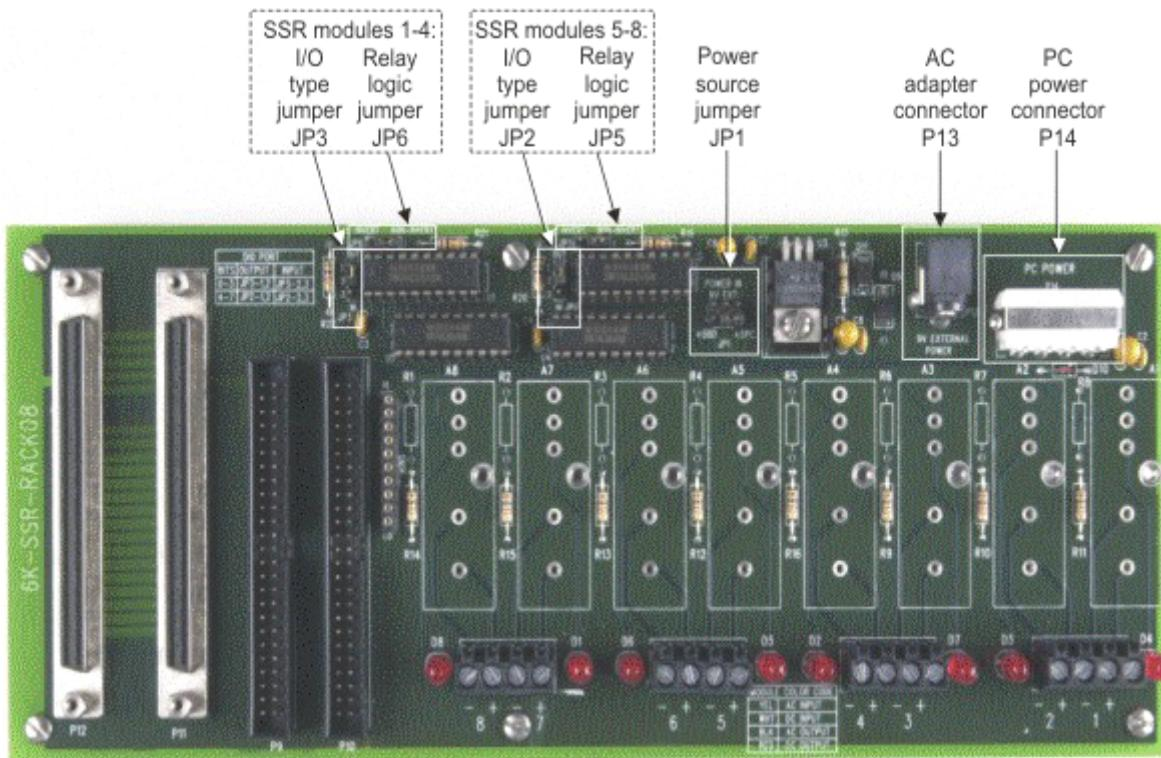
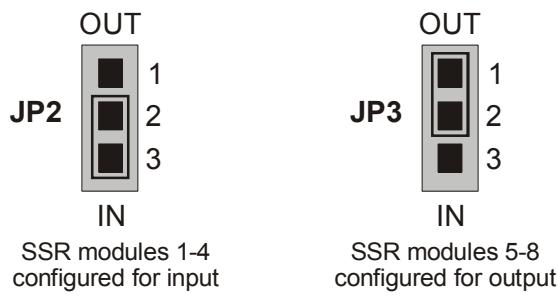

Figure 2-4. 6K-SSR-RACK08 board jumpers and external power connectors
Figure 2-6. I/O module type jumpers
Figure 2-4 shows the location of the jumpers and power connectors on the 6K-SSR-RACK08.
4. Connect the other end of the power cord to the connector labeled **PC POWER** connector (**P14**) on the 6K-SSR-RACK08. Refer to Figure 2-4 for the location of this connector.
2. Connect the CB-PWR-9 cable to the **9V EXTERNAL POWER** connector (**P13**) on the 6K-SSR-RACK08. Refer to Figure 2-4 for the location of this connector.
Refer to Figure 2-4 for the location of these jumpers. Figure 2-6 shows the SSR modules 1-4 configured for input (jumper position 2-3), and SSR modules 5-8 configured for output (jumper position 1-2).